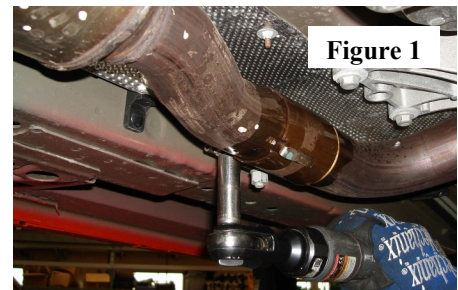
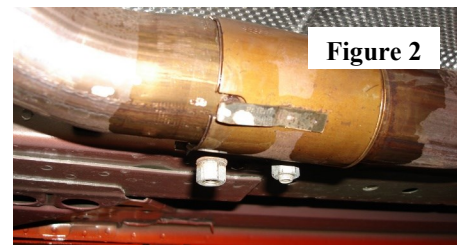

Figure 1
Figure 2
1. Loosen and remove the clamps on the left-side and right-side pipe behind the catalytic converters using a 15mm socket. (See Fig.1) Unbend the metal tab on each pipe. (See Fig. 2)